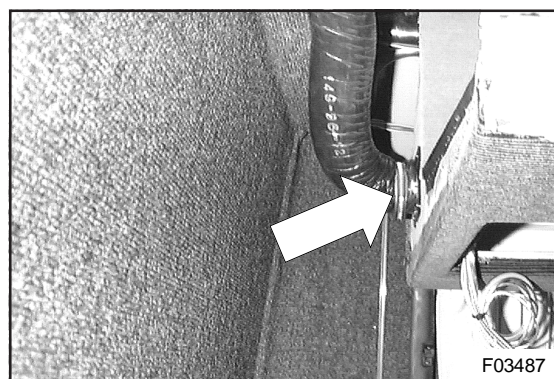

Figure 10: Feeder hose and mounting flange
1. Slacken hose clamp and remove feeder hose from mounting flange (Figure 10) . Retain hose clamp.